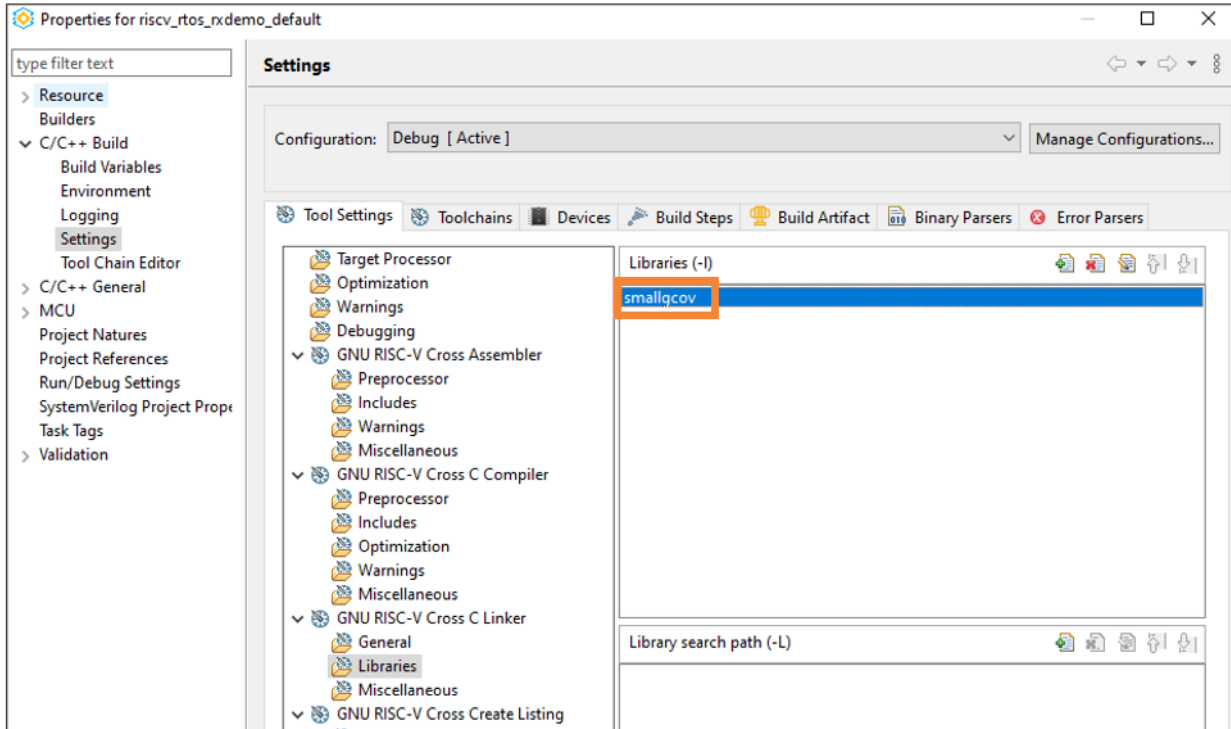

Figure 5.27. smallqcov Library
5. Select **GNU RISC-V Cross C Linker > Libraries**. Add the library, `smallgcov` (Figure 5.27).